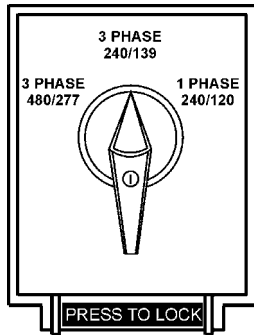

Figure 22. Voltage Selector Switch 240/139V Three-Phase Position
1. Place the voltage selector switch in the 3Ø 240/139 position as shown in (Figure 22).